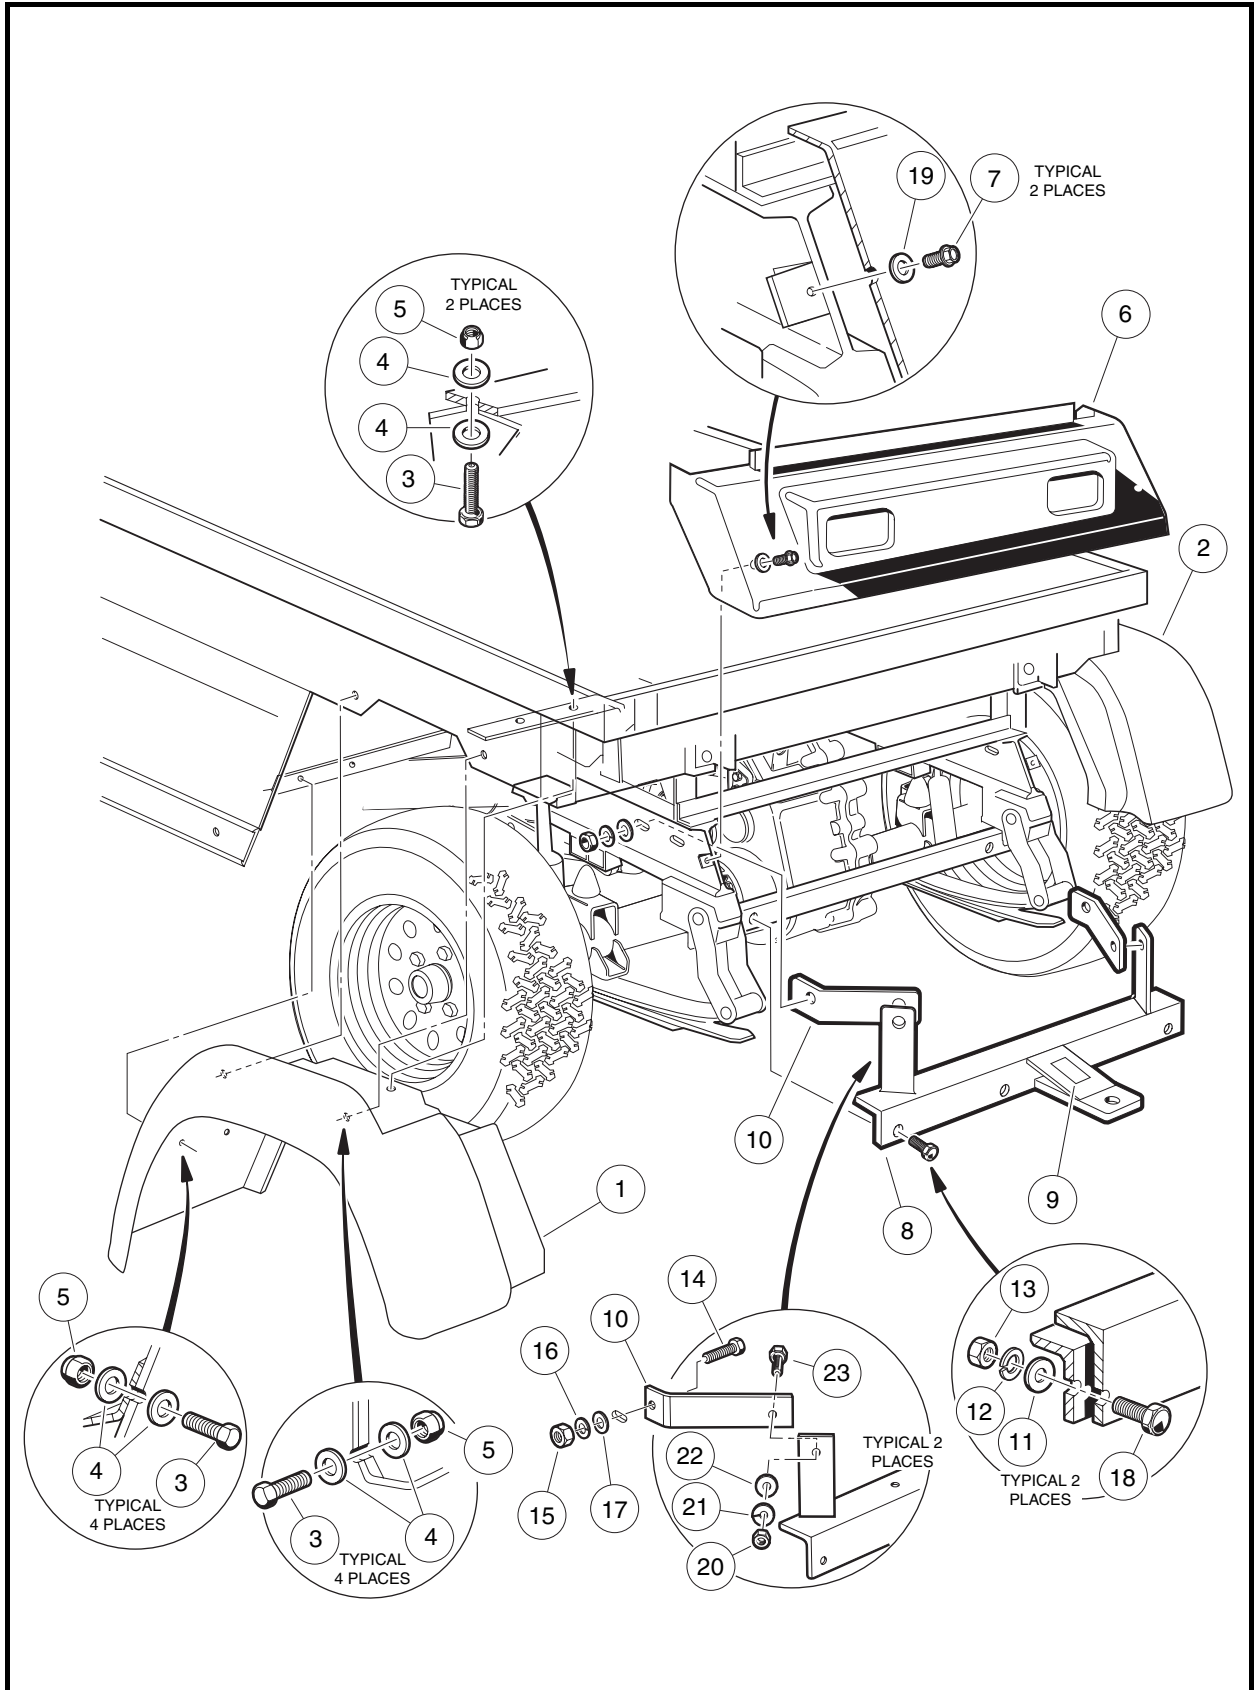
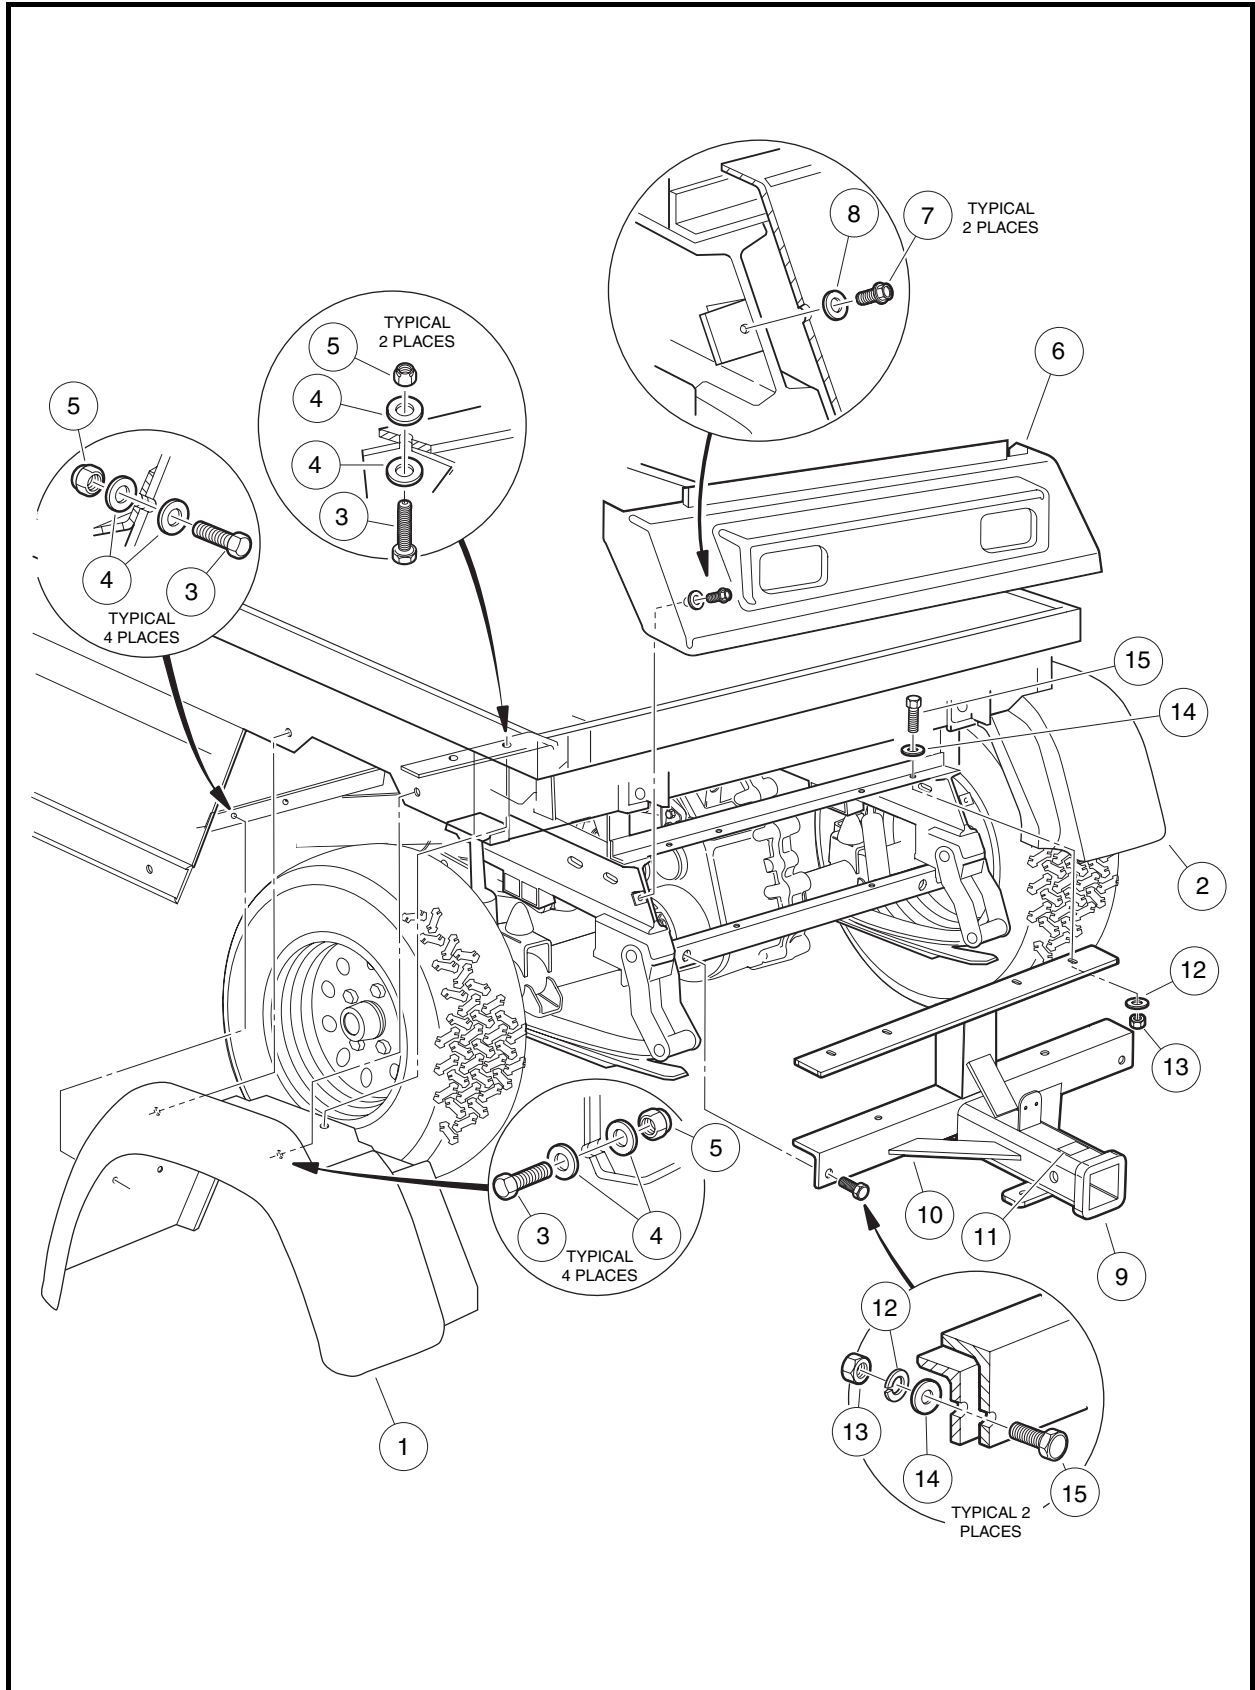

Figure 4-7 Turf 272/Carryall 272/XRT 1200 Rear Fender, Tailskirt, and Trailer Hitch
Figure 4-8 Carryall 472/XRT 1200SE Rear Fender, Tailskirt, and Receiver Hitch
1. Remove one 1/4-20 nylon locknut (5), fender washers (4) and 1/4-20 x 1-inch hex-head bolt (3) from the top, and underneath, of fender (1) (**Figure 4-7, Page 4-14 or Figure 4-8, Page 4-15**).
2. Remove the two 1/4-20 nylon locknuts (5), fender washers (4) and 1/4-20 x 1-inch hex-head bolts (3) from the front surface of the fender (1).
3. Remove the two 1/4-20 nylon locknuts (5), fender washers (4) and 1/4-20 x 1-inch hex-head bolts (3) attaching the fender wall (1) to the vehicle frame.
4. Remove fender (1) from the vehicle.
1. Reverse the rear fender removal process. Tighten bolts to 35 in-lb (4.0 N·m) (**Figure 4-7, Page 4-14 or Figure 4-8, Page 4-15**). See following NOTE.
1. Remove the two thread-forming screws (7) and flat washers (8) from the tailskirt (6) and slide tailskirt from under the back edge of the rear of the body and vehicle frame (**Figure 4-7, Page 4-14 or Figure 4-8, Page 4-15**).
1. Installation is the reverse of removal. Tighten screws (7) to 55 in-lb (6.2 N·m) (**Figure 4-7, Page 4-14 or Figure 4-8, Page 4-15**).
- 1.2. Remove two 5/16-18 hex nuts (20), lockwashers (21), flat washers (22) and 5/16-18 x 1-inch bolts (23) from hitch brace (10) and hitch frame (8) (**Figure 4-7, Page 4-14**).
- 1.1. Reverse the trailer hitch removal process and tighten bolts to 15 ft-lb (20.3 N·m) (**Figure 4-7, Page 4-14**).
- 1.2. Remove two 5/16-18 hex nuts (13), lockwashers (12), flat washers (14) and 5/16-18 x 1-inch bolts (15) from the top of hitch (10) brace (**Figure 4-8, Page 4-15**).
- 1.1. Reverse the receiver hitch removal process and tighten bolts to 15 ft-lb (20.3 N·m) (**Figure 4-8, Page 4-15**).